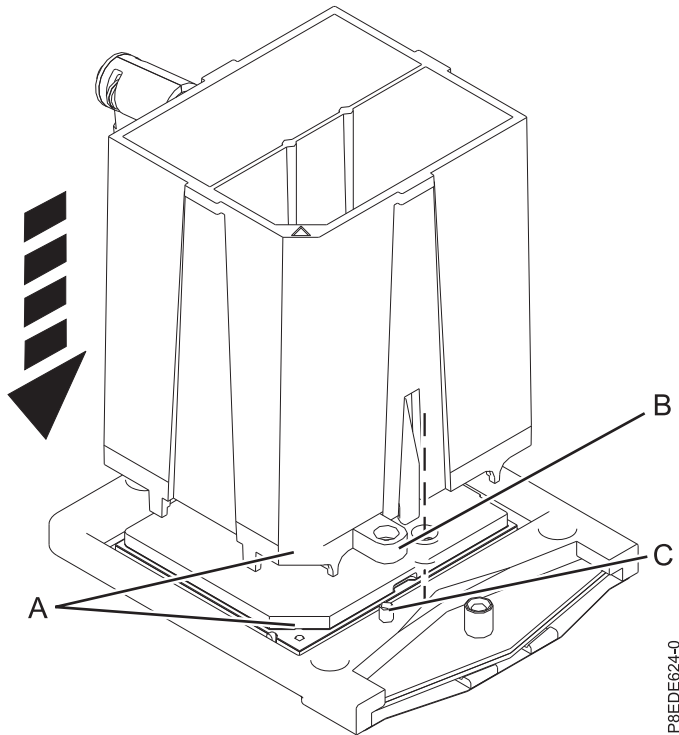

Figure 14. Lowering the removal tool onto the system processor module
- b. Lower the supplied removal tool (part number 00FW771) onto the system processor module in the original system backplane. The beveled corner (A) of the tool must align with the beveled corner of the system processor module. Align the tabs (B) of the tool with the pins (C) of the processor socket. See Figure 14 on page 16.